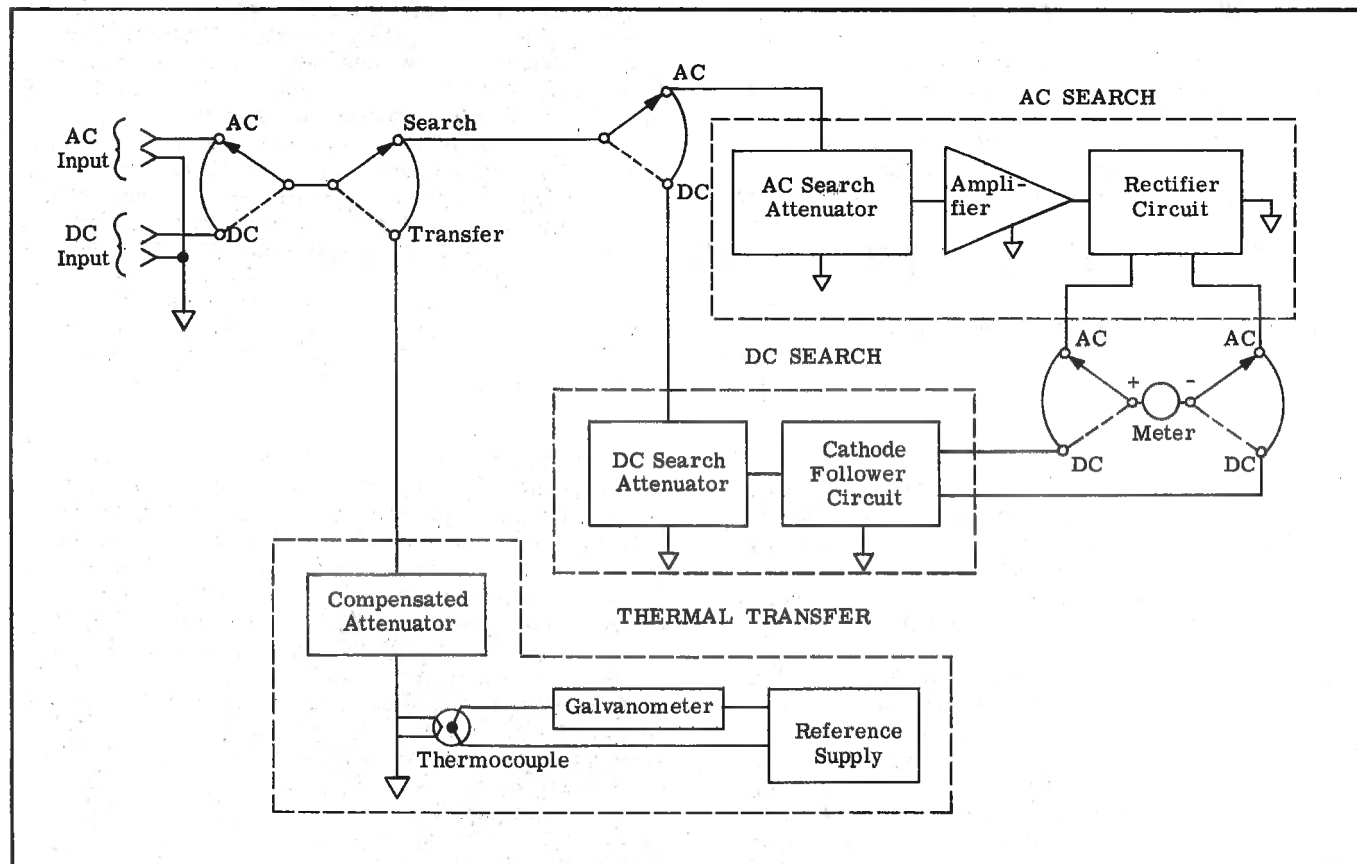

Figure 3-1. 540A THERMAL TRANSFER STANDARD BLOCK DIAGRAM
a. The 540A Thermal Transfer Standard consists of three major circuits: AC search, DC search, and thermal transfer. Figure 3-1 shows these circuits in block diagram form. For more detail, refer to the functional schematic diagram following Section V. This schematic is designed to aid in the understanding of circuit theory and troubleshooting. The signal flow is from left to right and the components are laid out in a functionally logical manner.